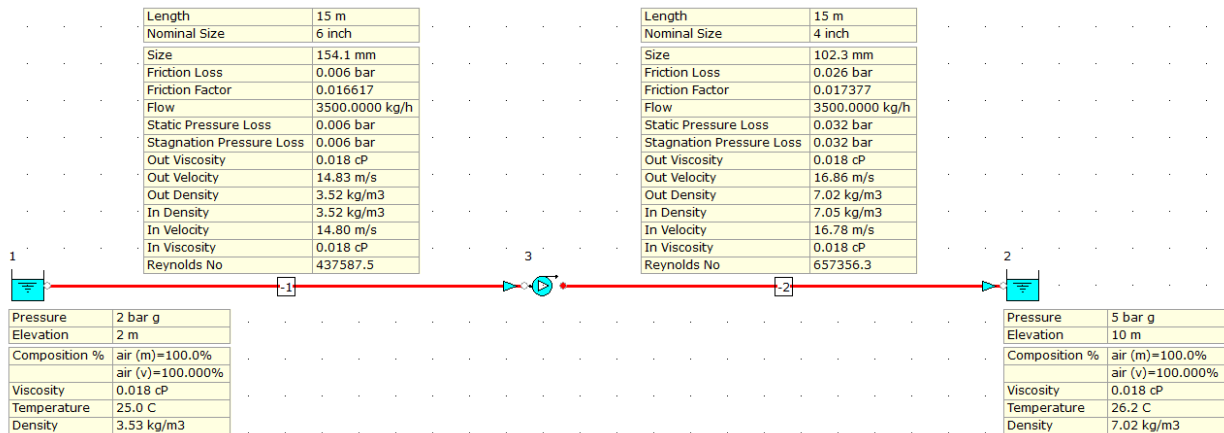

Figure 54: Hydraulic Model with Pipe Properties.
57. The hydraulic model should now look like the screenshot given below (Figure 54).